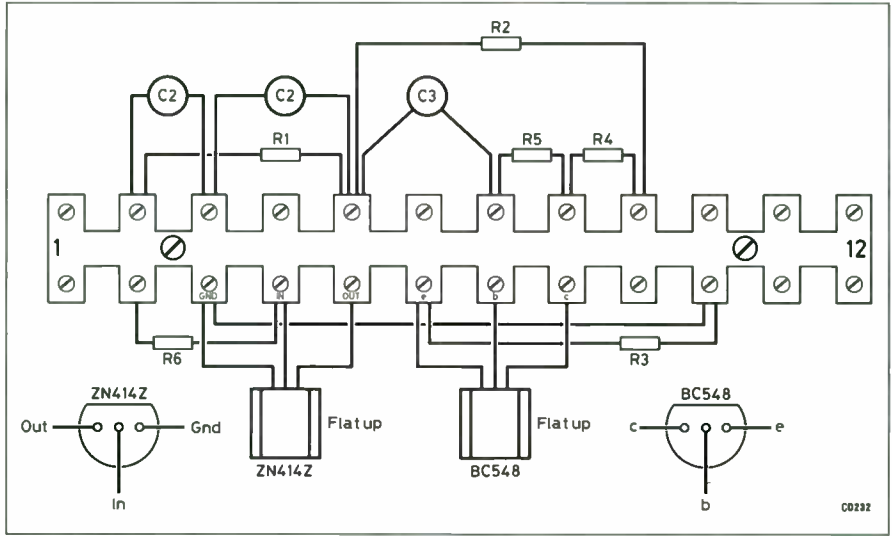

Fig 3.17. Terminal strip – position of components
1. Start by connecting the components on the terminal strip as shown in Fig 3.17, carefully checking the position and value of each one. The three capacitors are all the same and should not present a problem. The resistors are small cylinders with a wire coming from each end and the value will be coded by means of several coloured bands. Look at the first three bands – you should find: